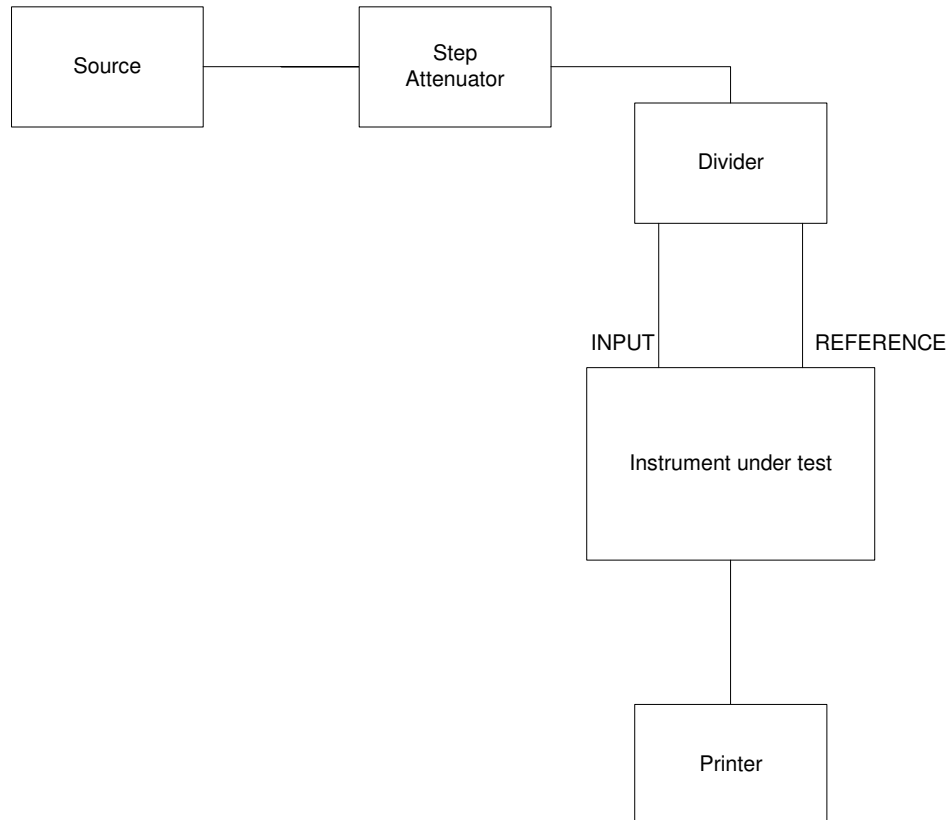

Figure 1: Tests 2, 3 and 5 Configuration
- Refer to Figure 1 for a pictorial representation of the set-up described in the following steps.
- Use the test configuration shown in Figure 1 during this test.